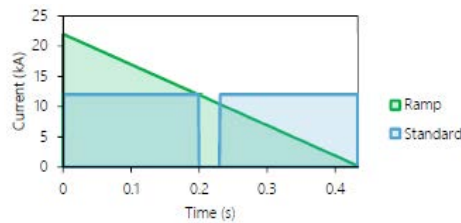

Figure 9. Ramp down schedule to reduce LME [2].
- Ramp down schedule recently proposed shows that crack index is reduced drastically [2] (Figure 9)